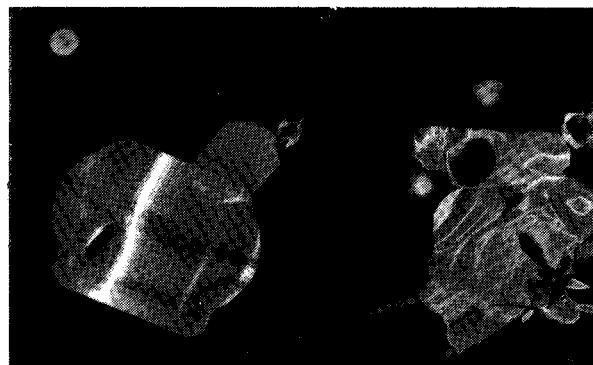

Fig. 2.3b. Dark Field image
- Press D button (LED off) and a dark field image of those crystal planes causing the selected diffraction spot will now appear (see Fig. 2.3b).